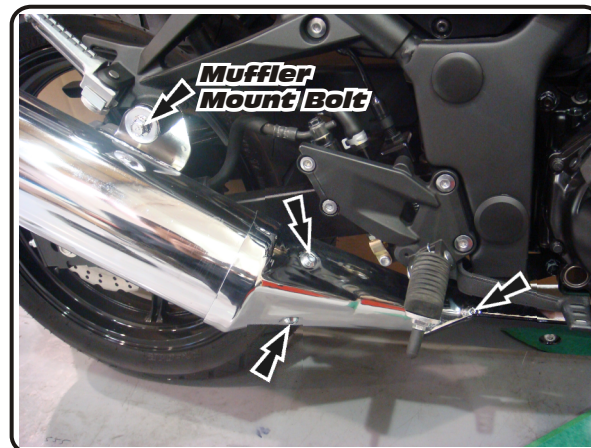

Fig. 1
1. Remove the stock heatshield (see Fig. 1 for stock heatshield fastener locations).
3. Remove the stock muffler mount bolt and remove the stock muffler (see Fig. 1 for stock muffler mount bolt location).